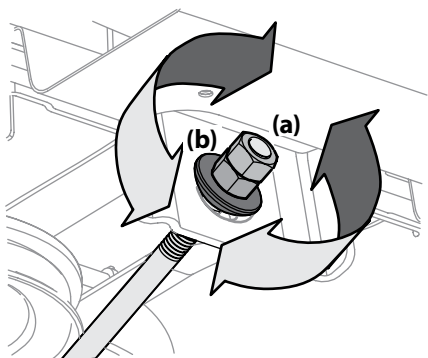

Figure 4-6
- To *raise* the front of the deck, remove the end cap, loosen the outer nut (a) then tighten (thread inward) the inner nut (b) against the front hanger bracket. See Figure 4-6. When proper adjustment is achieved, re-tighten the outer nut (a) and replace the end cap.
- To *lower* the front of the deck, remove the end cap, loosen the outer nut (a) then loosen (thread outward) the inner nut (b), away from the front hanger bracket. See Figure 4-6. When proper adjustment is achieved, re-tighten the outer nut (a) and replace the end cap.